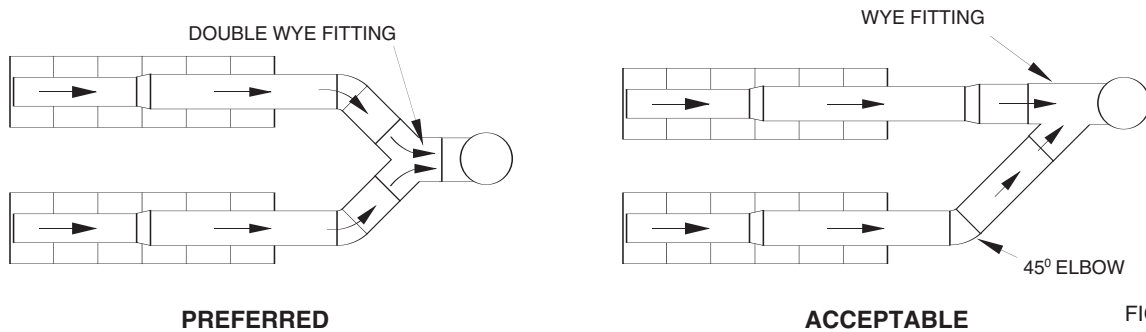

FIGURE 4.6
5. Where breaching runs connect into another breaching run, they must be connected so the flow-streams from each breaching run do not face or oppose each other, but rather, mix together in the same general direction (see Figure 4.6). Construction involves using Wye-fittings and rounded 45° elbows angled towards the chimney to assure proper flue gas flow.